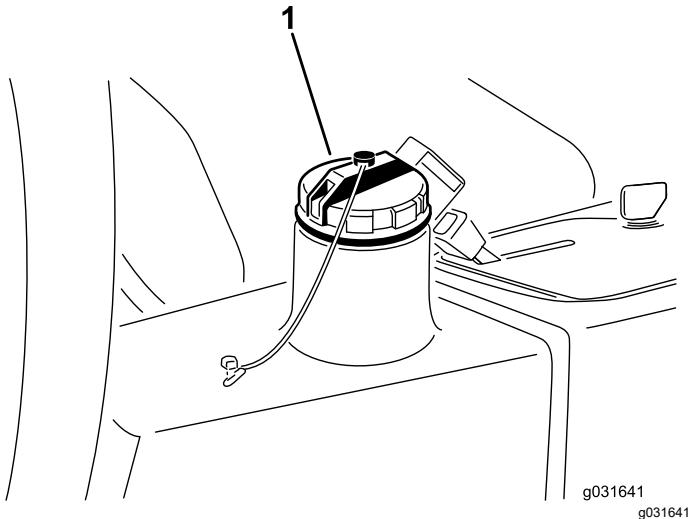

Figure 65
4. Fill the reservoir (Figure 65) with approximately 13.2 L (3.5 US gallons) of hydraulic fluid; refer to Hydraulic Fluid Specifications \(page 52\) and Checking the Hydraulic Fluid Level \(page 53\).